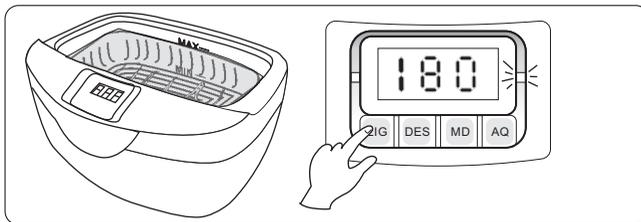
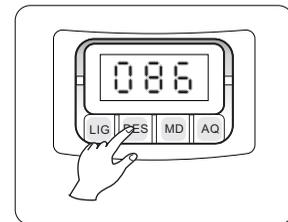

Fig. 14
Fig.15
- 7► Press the **LIG** key to start cleaning (Fig. 14), at this moment the operator will hear the typical sound of the cavitation process. To pause the cycle press the **DES** key (Fig. 15) to resume cleaning, press **LIG** again.